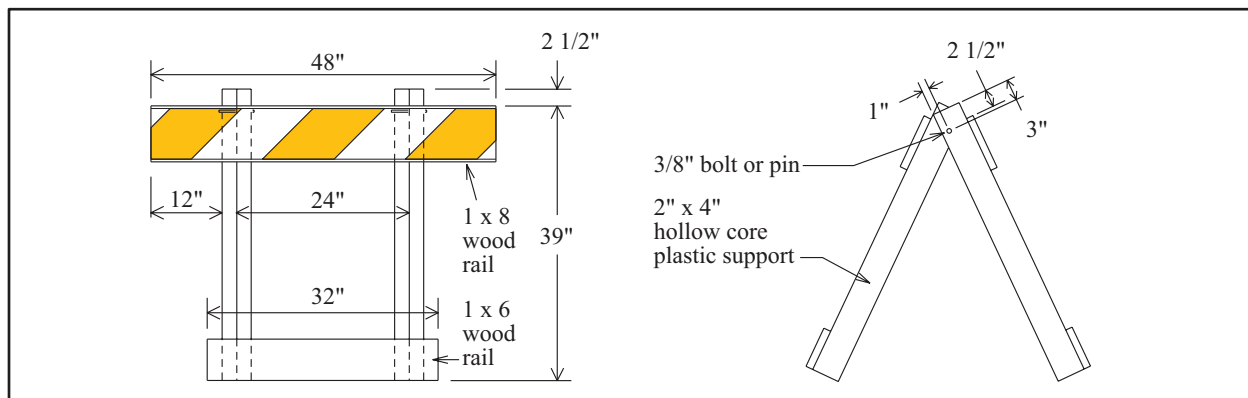

Figure C-1. Generic folding Type-I Barricade made from HPPL
- ❖ Hollow-Profile Plastic Lumber (HPPL), 2 x 4 HPPL uprights and 1 x 8 HPPL, 1 x 8 wood or plywood rails (Figure C-1). Wood shall be No. 2 SYP or equivalent. Plywood shall be 5/8-inch x 8-inch marine grade, CCA pressure treated, CDX or similar plywood with water resistant glue. Paint all wood surfaces white if not covered by reflective sheeting. Plastic components are available from: